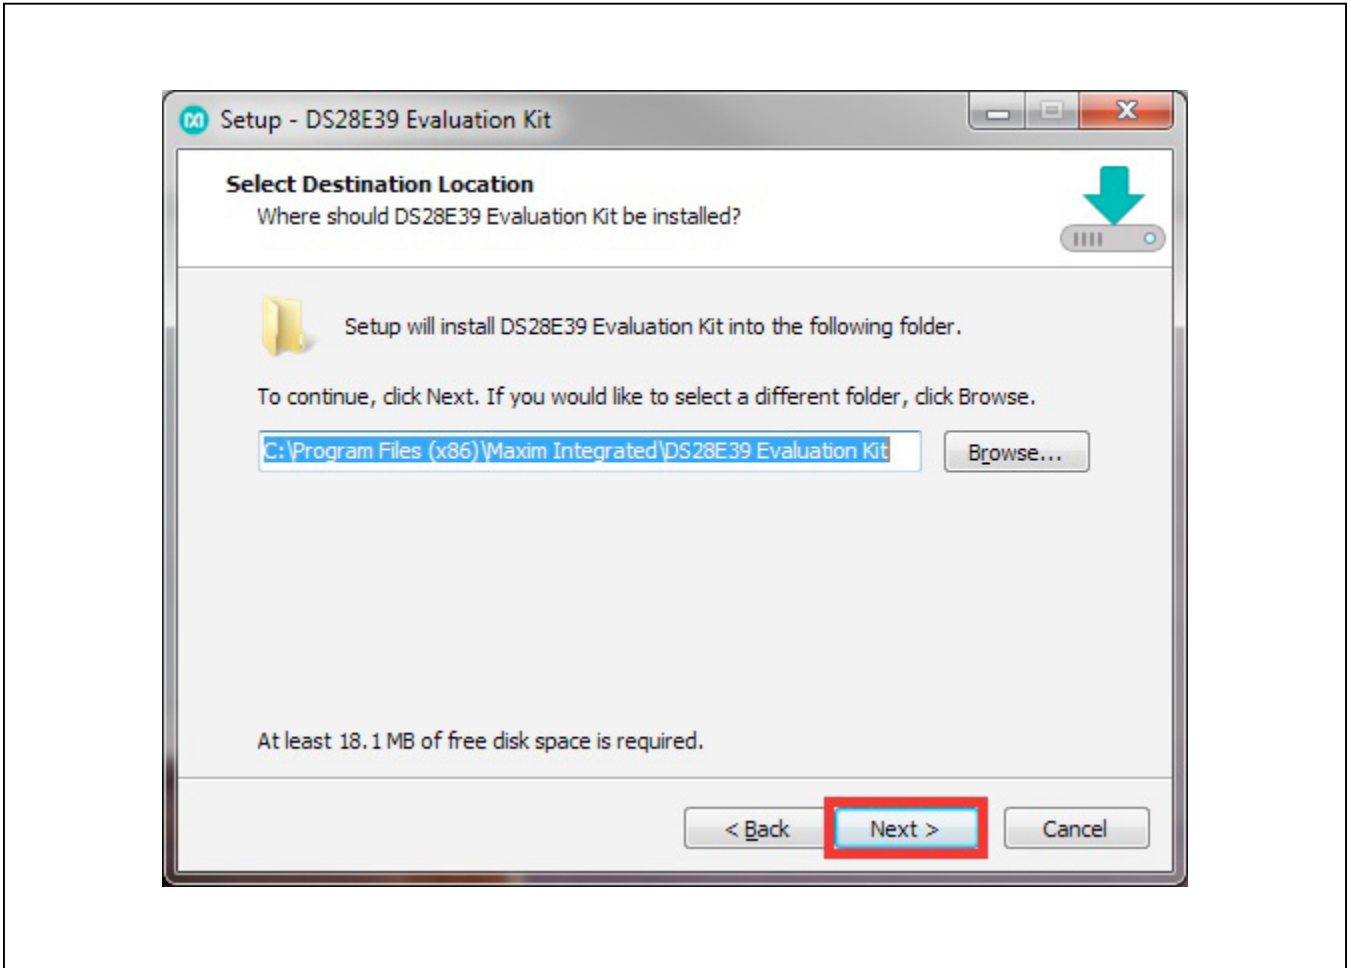

Figure 3. Install Folder Location
4) Click **Browse** to select a default folder location, and then click **Next** to install the EV kit software (Figure 3).